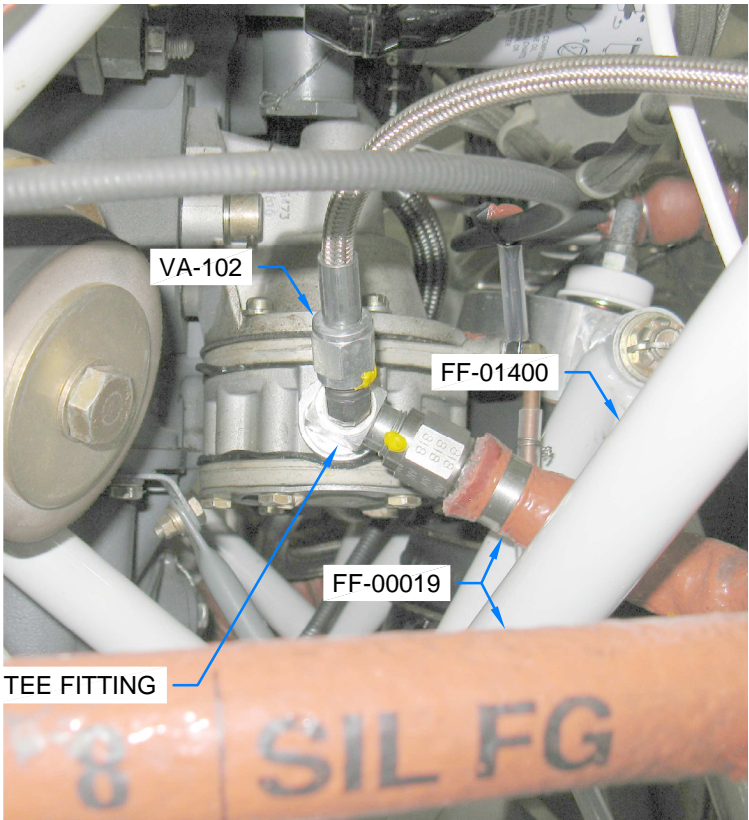

FIGURE 1: HOSES AT FUEL PUMP
Step 1: (Tri-Gear) Install the FF-00019 Hose to the tee fitting at the fuel pump outlet as shown in Figure1.
Step 2: (Tri-Gear) Route the FF-01400 Hose through the FF-01400 Engine Mount as shown in Figures 1 and 2.